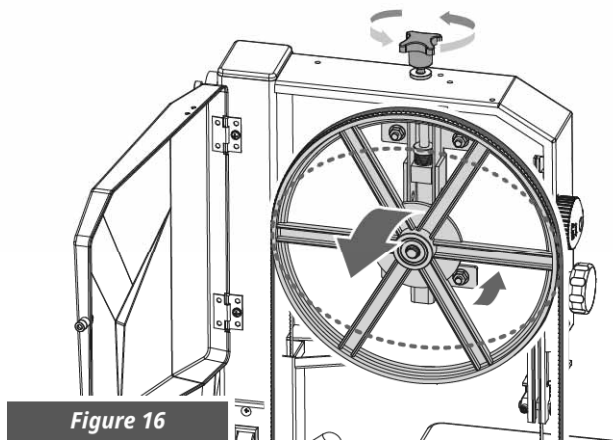

Figure 16
3. Loosen setting knob until the band saw blade has slackened. (See Figure 16)